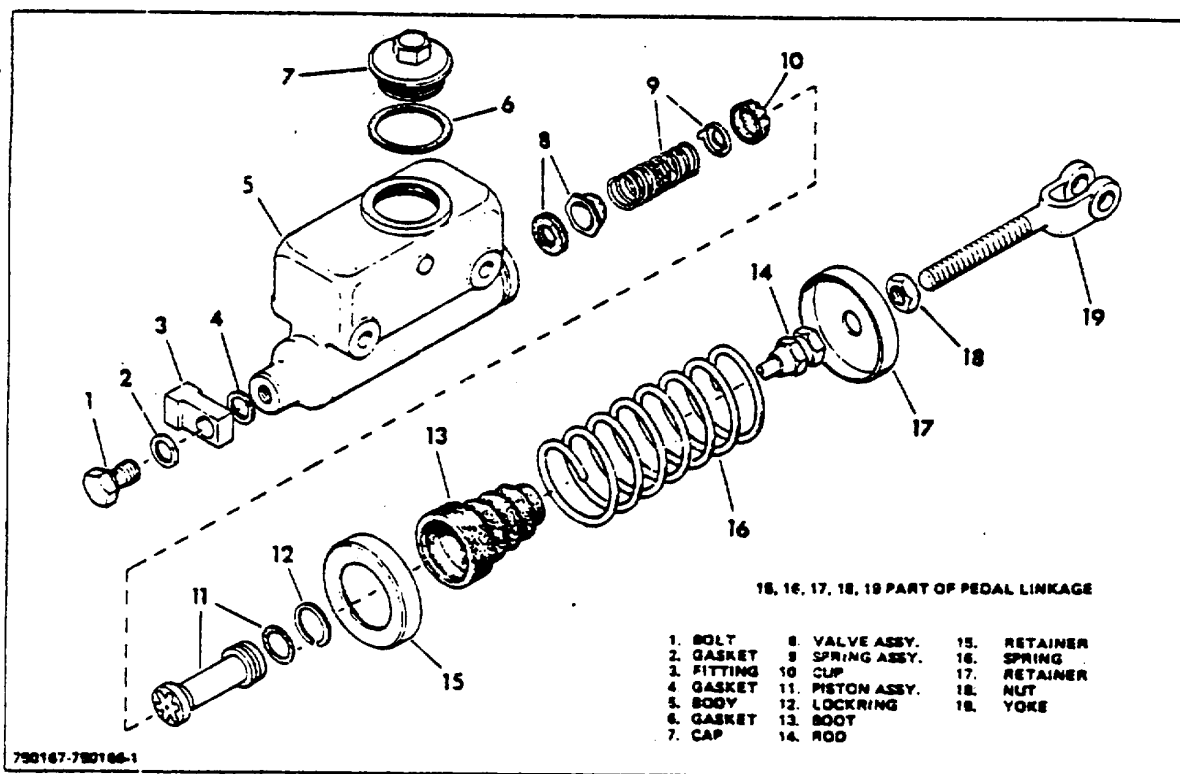

Figure 1-5. Master Cylinder Assembly And Yoke With Pedal Return Spring And Retainers
- f. When replacing master cylinder save retainers, spring, jam nut, and yoke (pedal linkage, Fig 1-5) for installation of new master cylinder.
- a. Install retainer, boot, and spring on master cylinder and assemble rod, retainer, jam nut and yoke as illustrated in Figure 1-5.